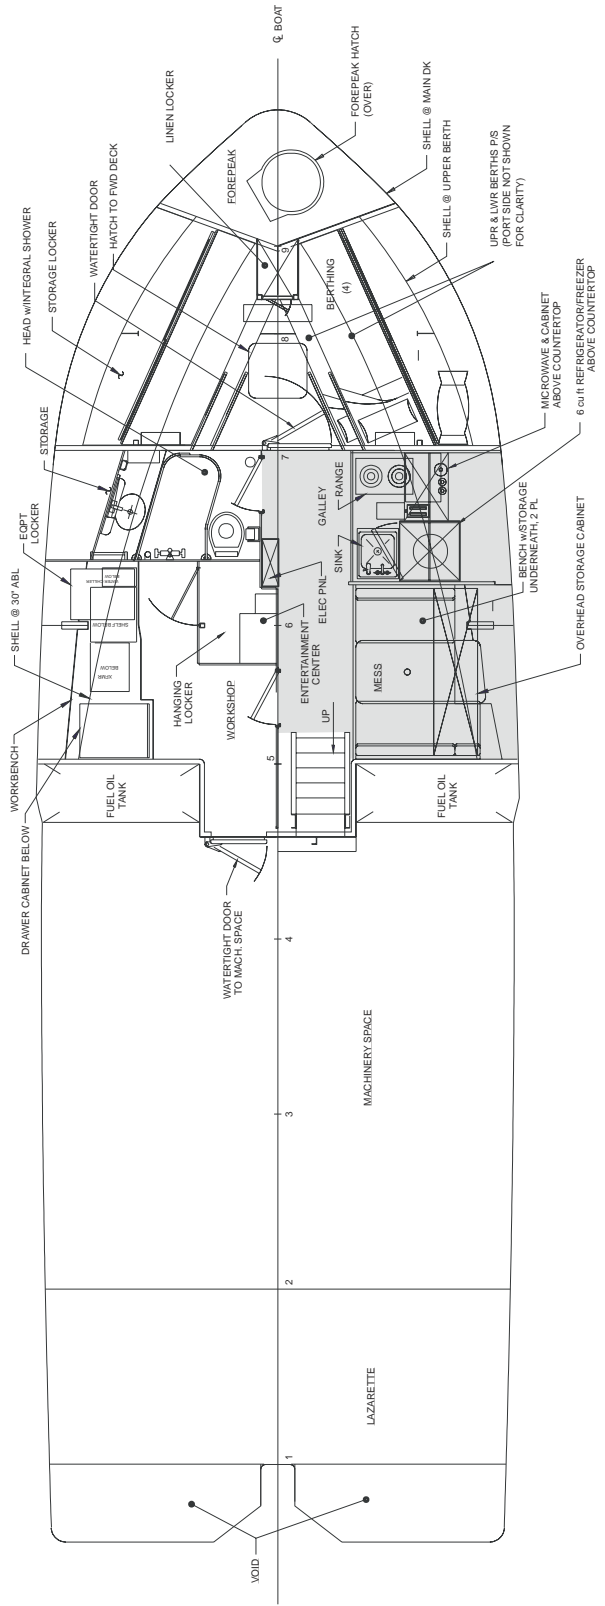

Figure 2-9
B.11. Access The galley/mess area is located on the starboard side forward of the machinery space. Access to this area is through a quick-acting watertight door accessible from the main deck aft of the pilothouse just starboard of the centerline. **(See figure 2-9.)**
- bench seats (2) with stowage underneath